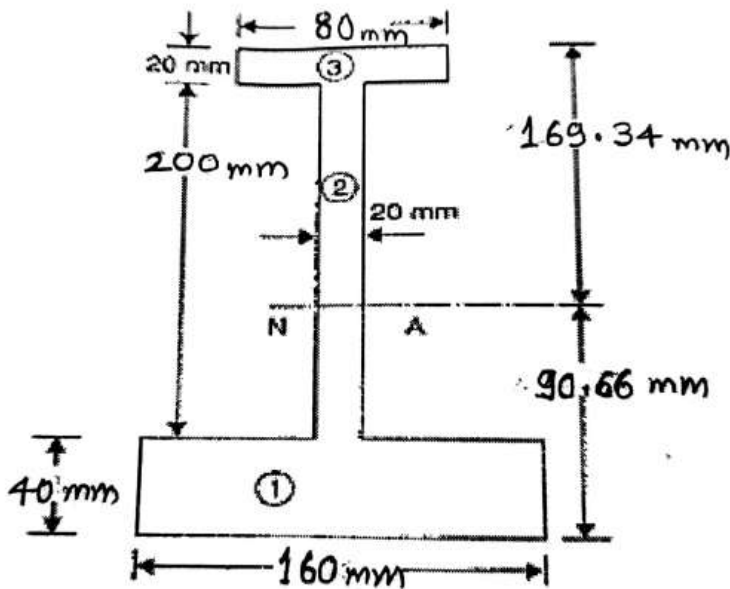

Fig. 3
- Q.4 A cast iron beam of I-section is shown in the fig.3. The beam is simply supported on a span of 5m. If the tensile stress is not to exceed 20 N/mm^2 , find the safe uniform load which the beam can carry. Also find the maximum compressive stress.